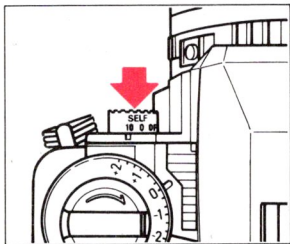

Fig. 34
3. Press the Self/Interval Timer Button. The Self-Timer Indicator Lamp blinks and the self-timer audible beep is heard. In 10 seconds, the shutter is automatically released. (Fig. 34)